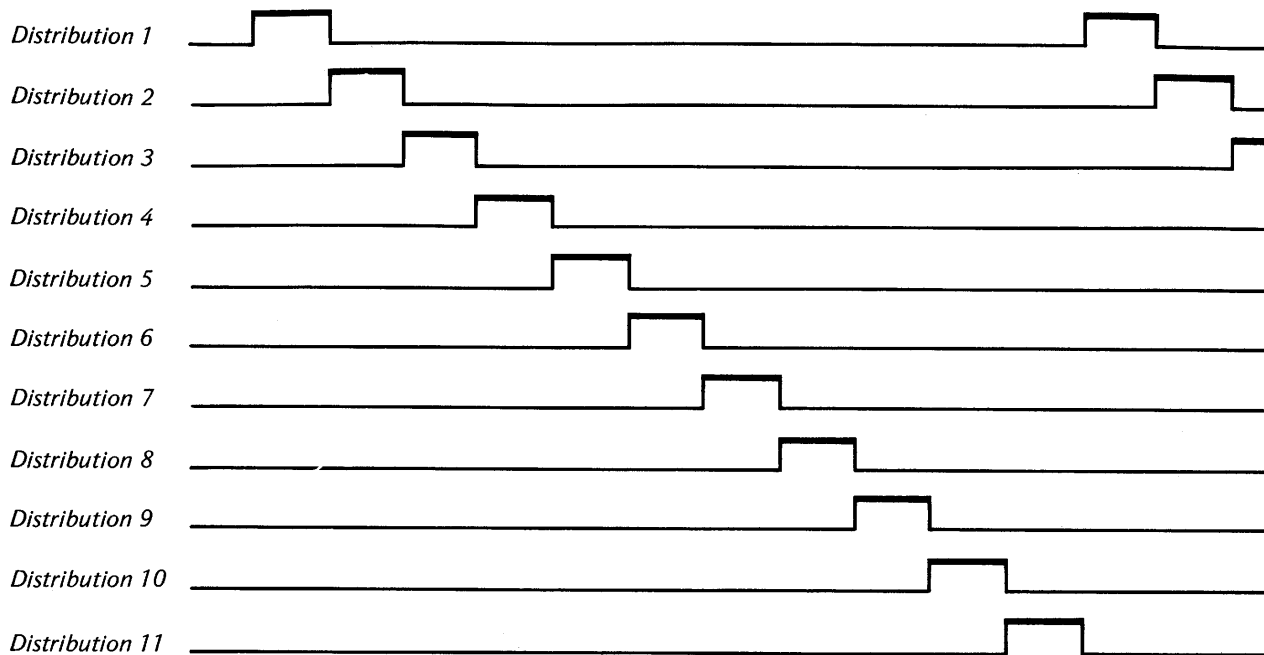
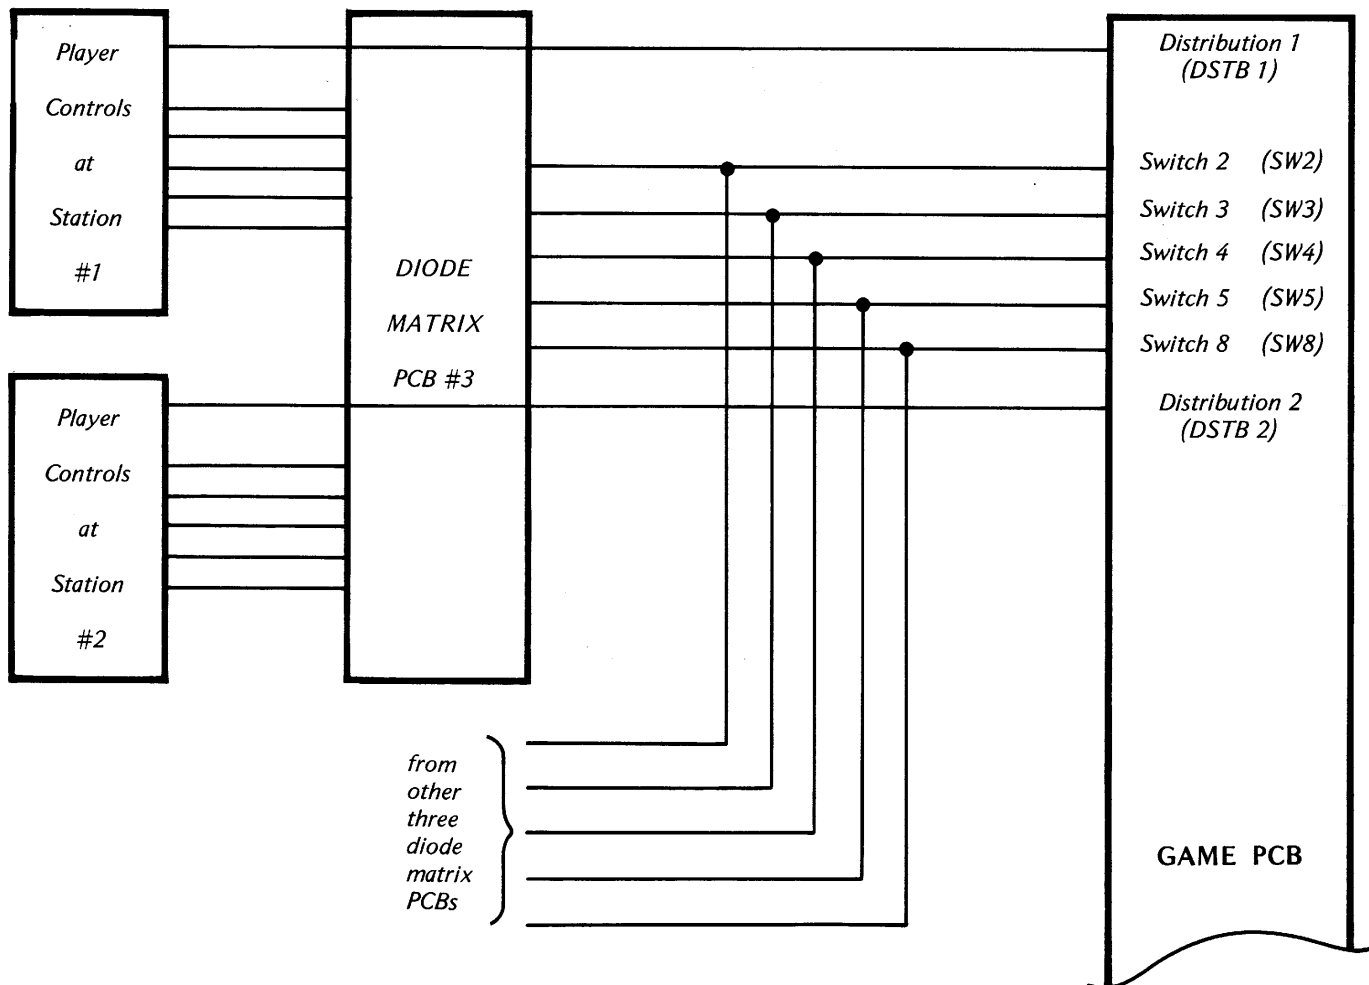

Figure 3-3 Timing Diagram for Distribution Signals
Figure 3-4 Simplified Block Diagram
**3.4.2 DIODE MATRIX PCB:** Each diode matrix PCB performs a multiplexing function. The game PCB sends out eight "distribution" signals to the diode matrix boards, two signals to each board. The timing of the distribution signals is such that only one signal is present at any one time (see timing diagram in Figure 3-3). As inputs from the diode matrix boards the game PCB receives the five "switch" signals SW2, SW3, SW4, SW5 and SW8. However, the respective switch signals are common for all four boards. In other words, the SW2 signal from all four diode matrix boards is a common line, and so forth for all five switch signals. The connections shown in the simplified block diagram in Figure 3-4 illustrate this arrangement.